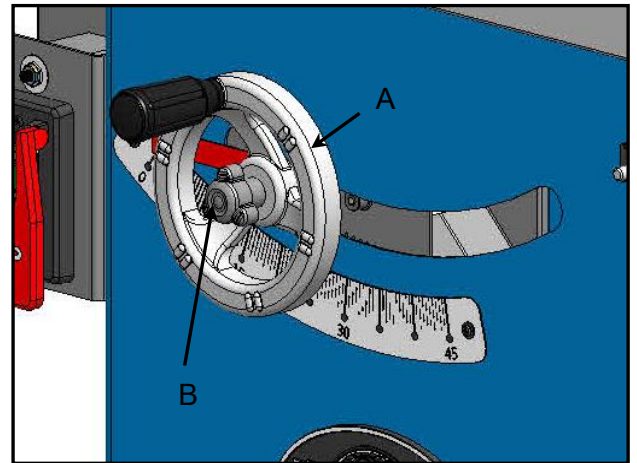

Fig. 30
The blade height adjustment handwheel A is located on the front of the saw and there is a lock knob B on the handwheel that allows you to lock the wheel and secure the blade at the desired height Fig. 30.
2. Lower the blade all the way down by the blade height adjustment handwheel A, Fig.30.